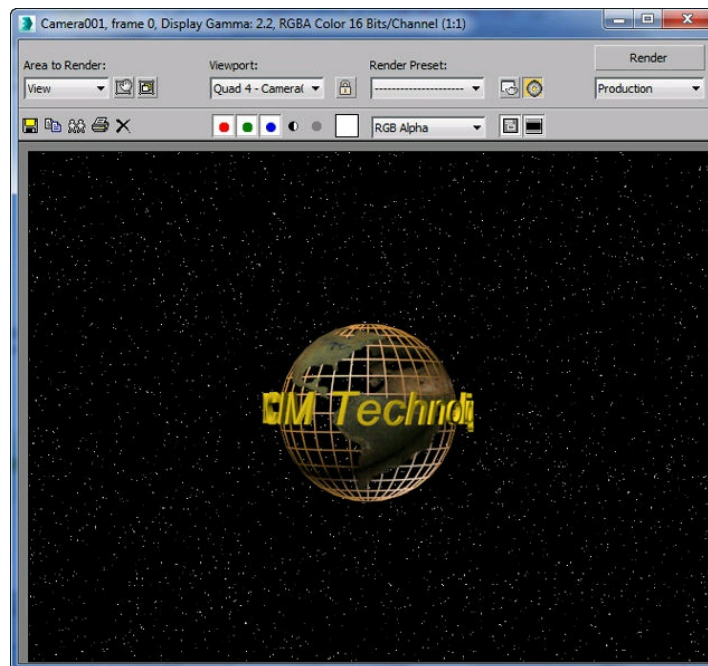

Figure 14-50 The scene with the space environment map
7. Render the Camera001 viewport; the scene is displayed with *space environment map*, as shown in Figure 14-50.